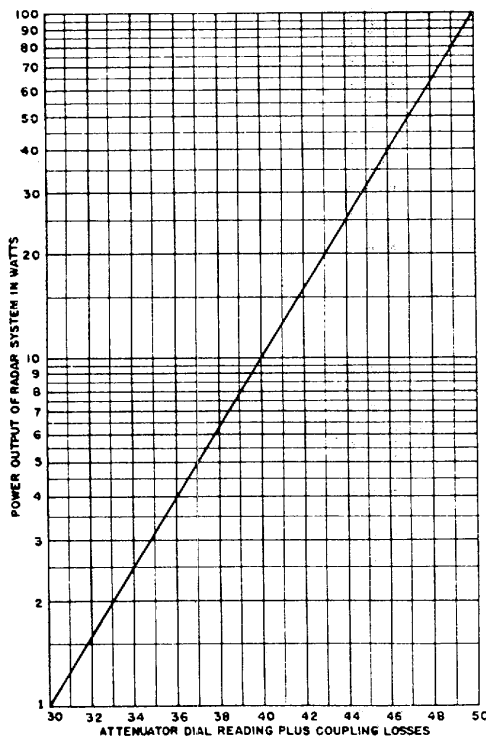

Figure 4-18. DBM to Watts Conversion Chart
a. If the rated transmitter average power is known in watts or kilowatts, it can be converted to dbm by use of the chart, figure 4-18. If the rated peak power is the known value, proceed as follows:
(1) Use figure 4-18 to convert rated transmitter peak power from watts or kilowatts to dbm to get the rated transmitter performance figure $P_{pk(dbm)}$.
(2) The following formula is used to convert the rated transmitter performance figure to rated average power:
From figure 4-18, $P_{pk(dbm)} = +76.0$ dbm (by extrapolation)